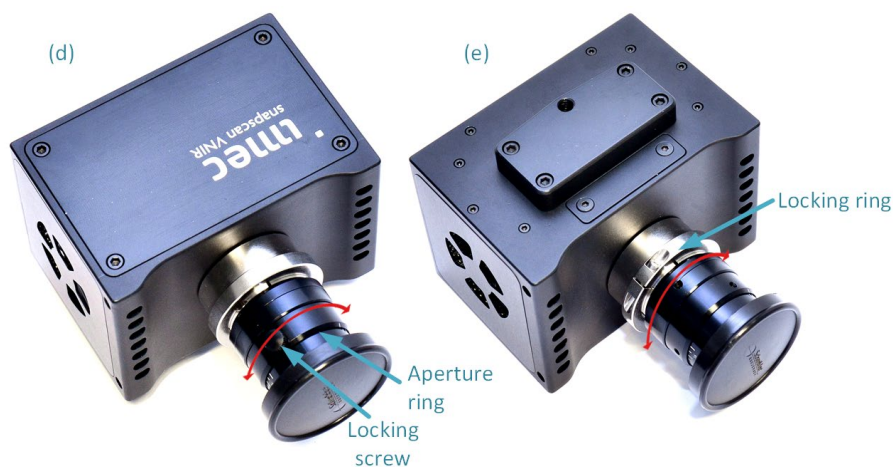

Figure 34 Focusing and setting the aperture of the lens
Step 5.1 Mount the lens on the snapscan camera (Figure 33, Figure 34)